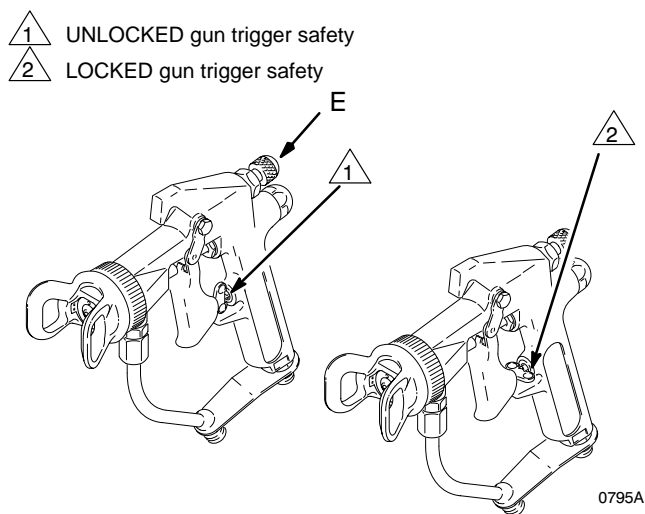

Fig. 2
1. The fan pattern valve (E) can be used to reduce the pattern by about 25% of the total pattern width. As the valve is opened, the pattern will reduce slightly. The tip used designates the total width of the spray pattern.
2. To unlock the gun trigger safety, turn the safety so it is parallel with the trigger. To lock the gun trigger safety, turn the safety to a right angle with the trigger. See Fig. 2.